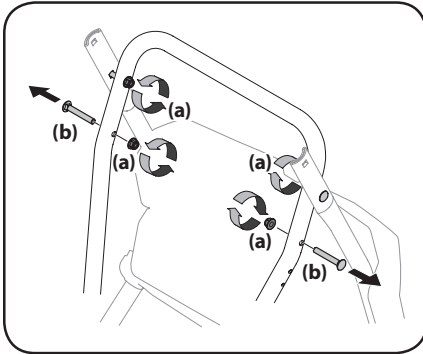
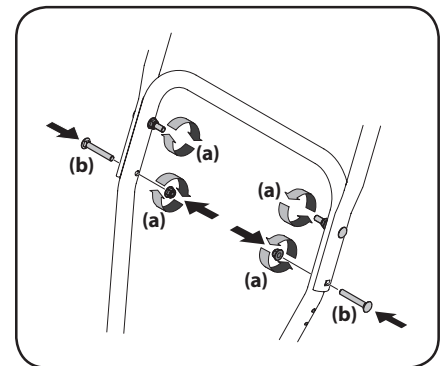

Figure 2-2
Figure 2-5
2. On select units, loosen the top two lock nuts (a) securing the upper and lower handle and remove the two carriage screws (b) from the lower handle and set aside as shown in Figure 2-2.
6. On units with the handle set-up shown in Figure 2-2, attach the two carriage screws (b) and lock nuts (a) removed in Step 2. Finish securing the handle by tightening the top two lock nuts (a) loosened in Step 2. See Figure 2-5.